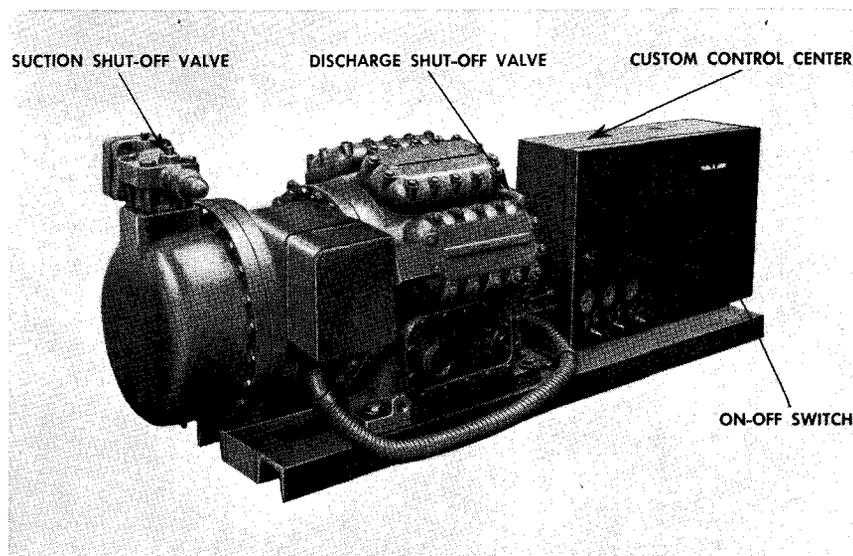
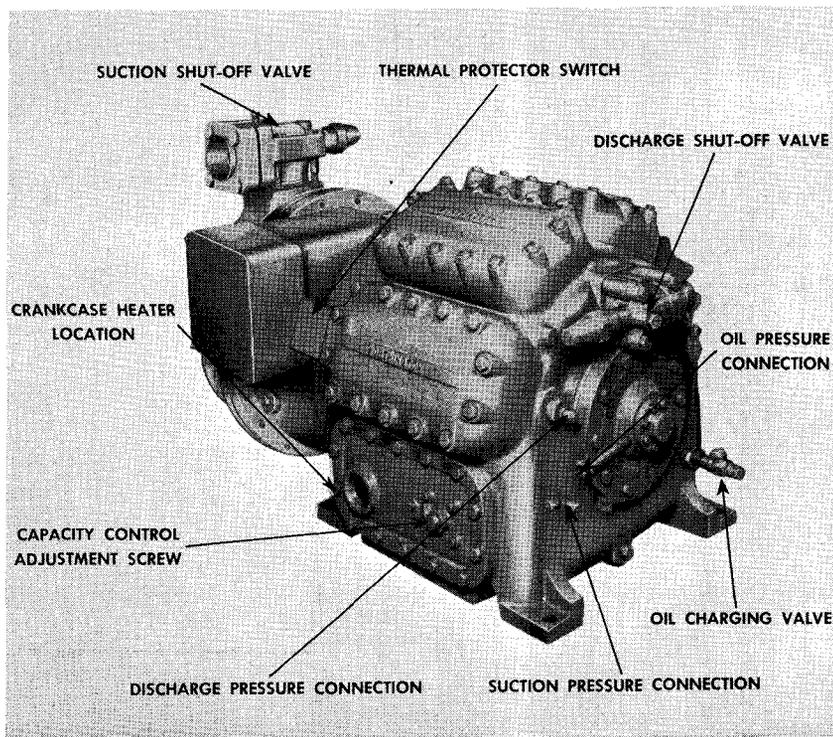

Fig. 1—VH Compressor Unit
Fig. 2—V-Line Compressor
a. Compressor Unit (Fig. 1)—This V-Line Compressor (Fig. 2) mounted on a suitable base. The arrangement of safety switches, gauges, starters and overload protection is described below. Compressor units range in capacity from 7.5 to 80 tons, employing four to eight cylinders and two different piston displacements. In addition to the safety valve, set at 300 psig, which is mounted on the compressor motor housing to prevent excessive low-side pressure, there is an internal relief valve located behind the discharge shut-off valve to safeguard against dangerous high-side pressure. A thermal protector switch mounted on one of the cylinder heads stops the compressor operation whenever the discharge gas temperature is too high.